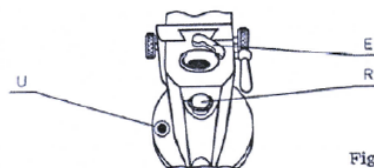

Fig. 5
2. Bring red dot into window U, have index pin R engage the central hole (see Fig. 5).